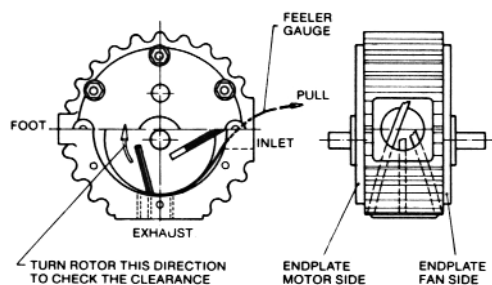

Fig. 13 - Checking Radial Clearance
Check the radial clearances (see Fig. 13) by inserting a feeler gauge blade into the inlet of the pump in the direction of the smallest clearance between rotor and cylinder. Check the radial clearance in three (3) locations along the rotor. The recommended radial clearances are shown in the chart located near the back of this manual (see page 21).
Insert two .07mm (0.0027 in.) feeler gauge blades for 0160/0250 pumps and .08mm (0.0031 in.) for 0400/502/0630 pumps through the inlet, over the top and underneath the rotor to the far left and far right position of the cylinder (see Figure 13). The rotor should be sitting on the feeler blades. The feeler gauge shown in Fig. 13 is only for checking radial clearances after assembly.
Remove the feeler blades by turning the rotor from the fan side counterclockwise (see Fig. 13). Check the tips of the feeler gauge blades to make sure nothing has broken off. It will be necessary to remove the broken piece, and start over if a piece of the feeler gauge blade has broken off.